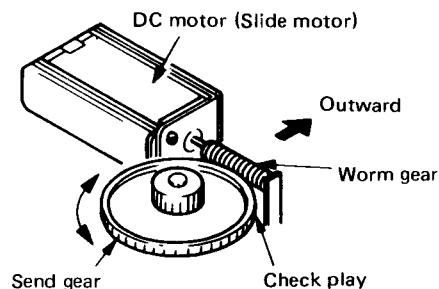

Fig. 22
- [4] When installing the DC motor assembly, take care not to damage the worm gear. After installation, check the play between the worm gear and send gear. If there is no play move the DC motor assembly outward. (Fig. 22)